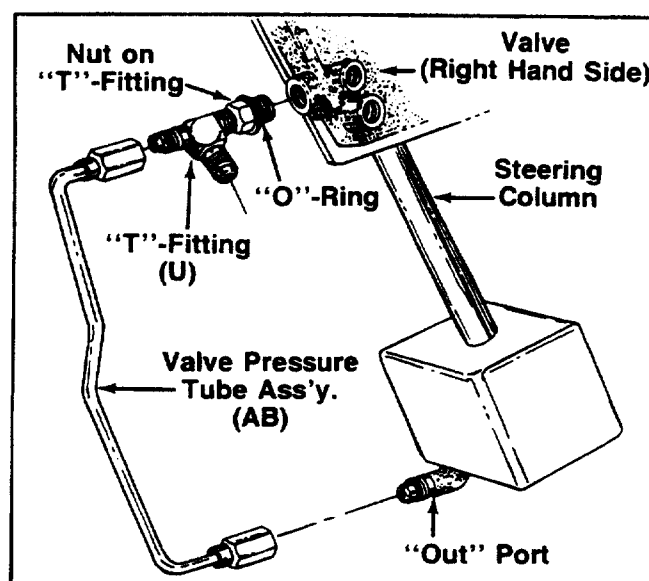

FIGURE 18.
- B. Install the "T"-Fitting (U) to the right hand side of valve with the "O"-Ring side of "T"-Fitting into valve body where 90° elbow was removed in step 10A. See figure 18.
"T"-Fitting must be installed so bottom of "T"-Fitting is parallel with the steering column. Do not tighten. Back up nut on "T"-Fitting at this time. See figure 18.
11. Assemble valve pressure tube assembly (AB) to the other end of "T"-Fitting loosely and connect the other end to 90° tube elbow on the "Out" port on the bottom of steering column. Tighten securely at this time. See figures 18 and 19.